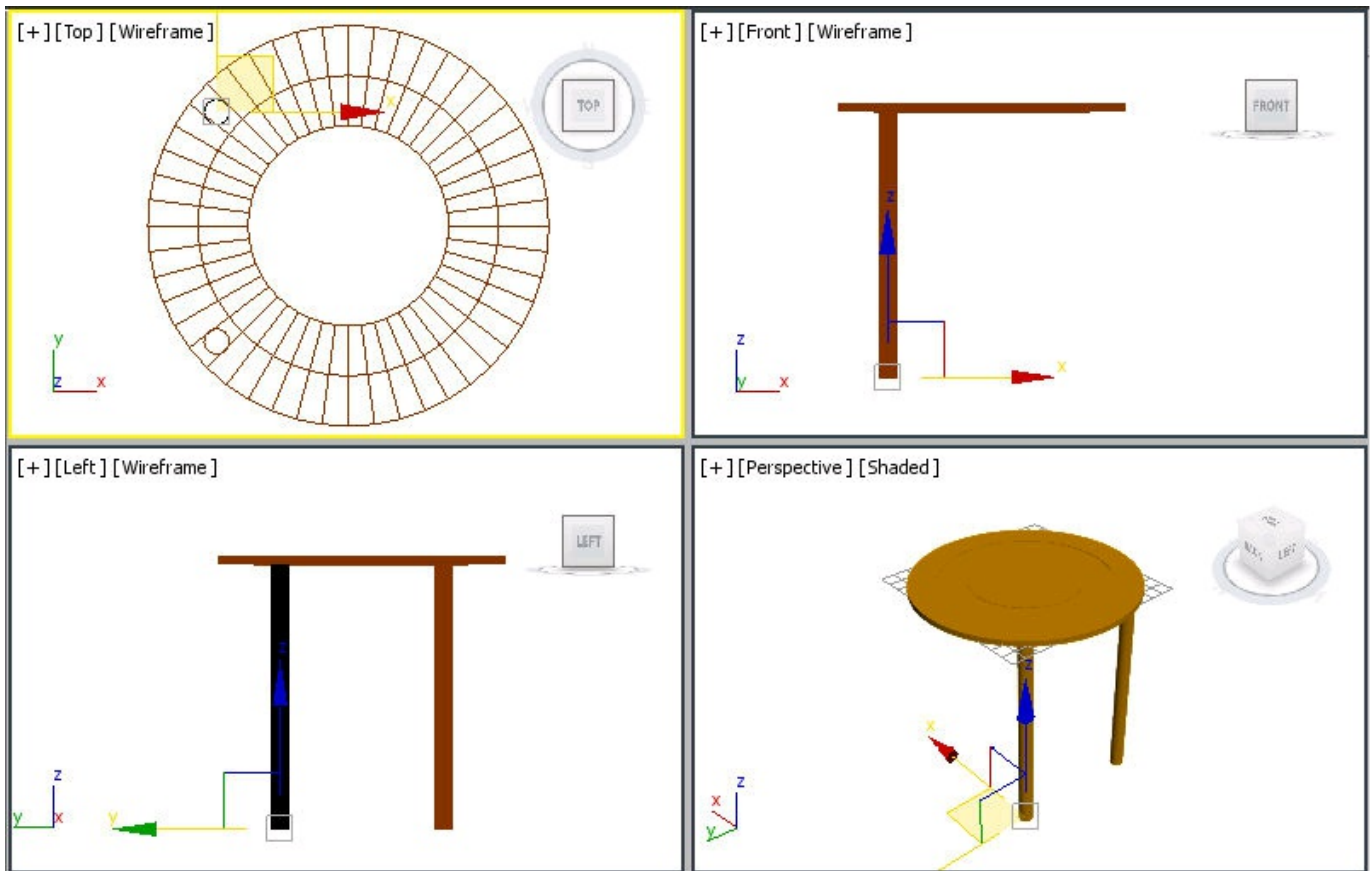

Figure 2-53 The leg002 created after cloning leg001
5. Make sure the **Copy** radio button is selected in the **Object** area and 1 is displayed in the **Number of Copies** spinner of the **Clone Options** dialog box. Next, choose the **OK** button; *leg002* is created. Align *leg002* in the viewports, as shown in Figure 2-53.